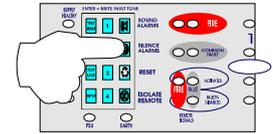

fig 2.
- 3 Only when it is safe to do so should the alarms be silenced. Turn the "activate controls" keyswitch to the ON position and press the SILENCE ALARMS button, see fig 2. If it was a false alarm look for the device that has caused the alarm. A detector will have a red light lit, or check to see if a call point glass is broken. (If so replace the glass or call an engineer.)